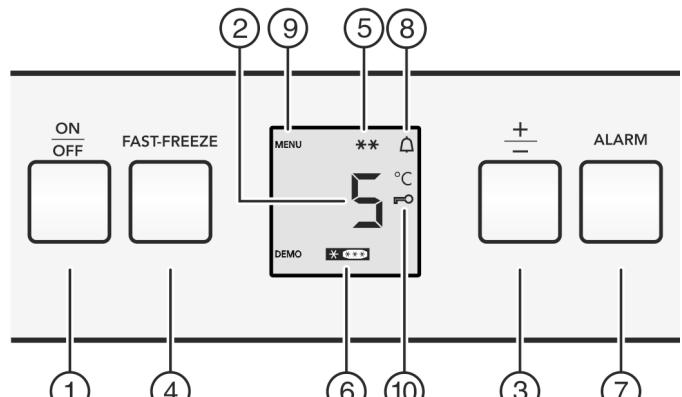

Fig. 2
- Press the On/Off button Fig. 2 (1).
- Press the Fast-Freeze button Fig. 2 (4) for approx. 5 seconds.
- The menu symbol Fig. 2 (9) is indicated in the display.
- Briefly confirm using the Fast-Freeze button Fig. 2 (4).
- The child lock symbol Fig. 2 (10) illuminates in the display.
- Briefly press the ON/OFF button Fig. 2 (1).
- Press alarm button Fig. 2 (7).
The temperature display and the alarm symbol Fig. 2 (8) flash at the same time.
The audible alarm is automatically silenced, the alarm symbol Fig. 2 (8) goes out and the temperature display stops flashing when the temperature is sufficiently cold again.
- Call up the temperature function: Press the "+/-" setting button Fig. 2 (3).
- Change the temperature in 1 °C steps: Press the "+/-" setting button Fig. 2 (3) until the required temperature is indicated in the temperature display.